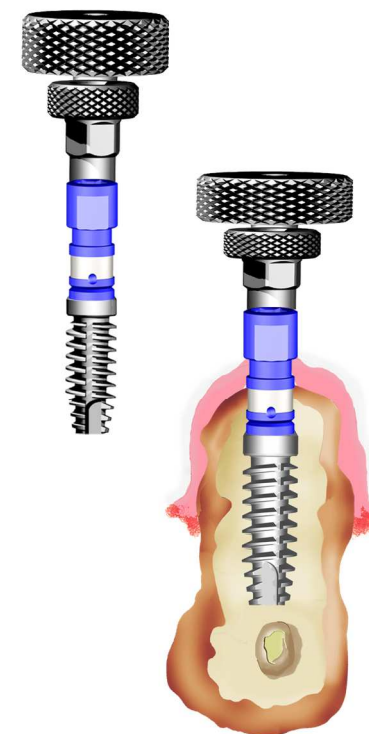

Fig.4
- Proceed with Implant placement Fig.4